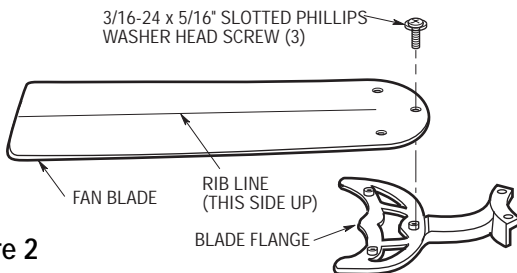

Figure 2
IMPORTANT: THE SIDE OF THE FAN BLADE HAVING THE RIB LINE MUST BE FACING UPWARDS AS SHOWN IN FIGURE 2.
- 6. Mount blade flanges to fan blades using three 3/16-24 x 5/16" slotted phillips washer head screws per blade (Figure 2).